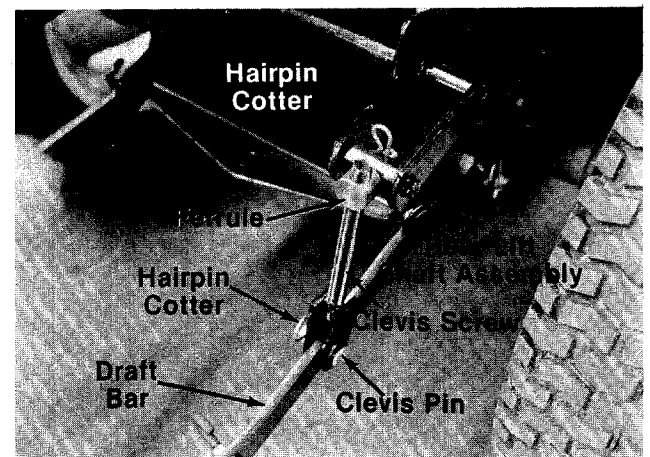

FIGURE 7.
4. Thread the ferrule onto the clevis screw until approximately a half inch of thread is showing above the ferrule. See figure 7.